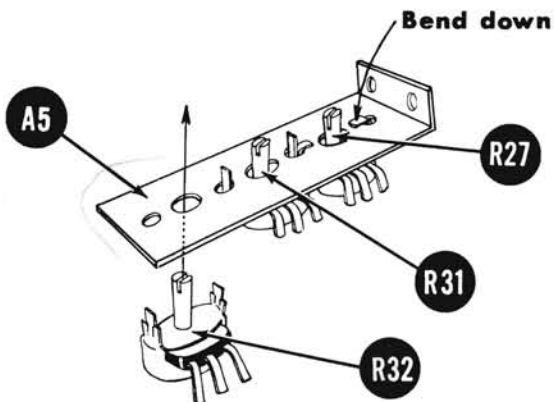

Fig. 1
- (-) Fig. 1. Mount the 10K Ω AC BAL. potentiometer, R27, on potentiometer mounting bracket, A5. Bend tabs in towards the shaft as shown.
- (-) Fig. 1. Likewise, mount the 2K Ω DC CAL. potentiometer, R31.
- (-) Fig. 1. In a similar manner, mount the 2K Ω AC CAL. potentiometer, R32.